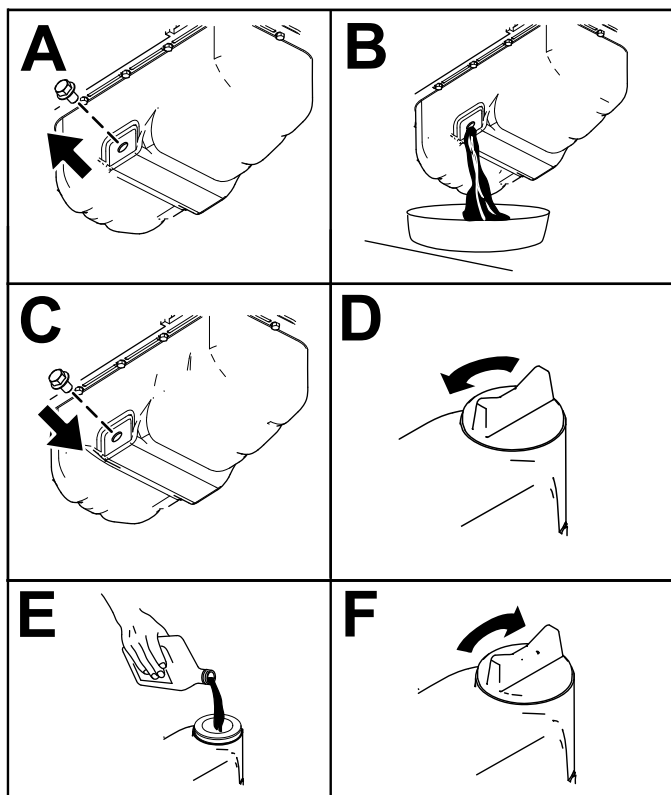

Figure 49
3. Change the engine oil as shown in Figure 49.